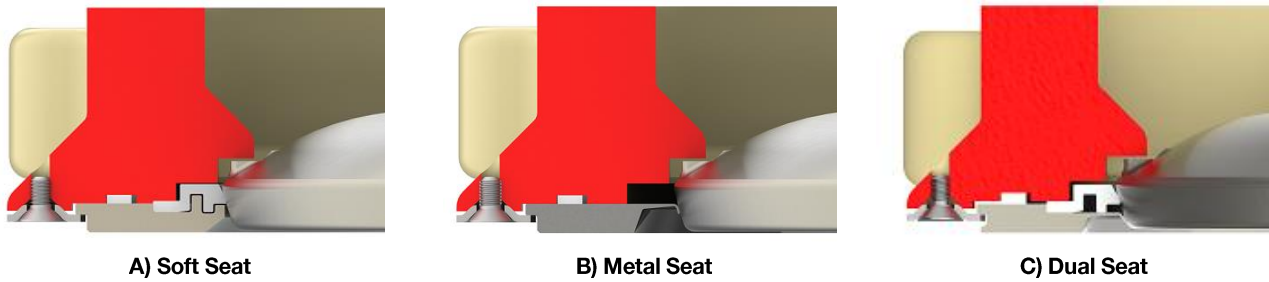

Figure 1: Cross-sections of seat retainer configurations
WARNING: When installing the valve in-line between flanges, make certain the flange face gasket covers both seat retainer and body surfaces. Failure to do so will cause excessive leakage. Refer to Figures 1: A, B and C for seat retainer options and line gasket position.
To disassemble the body, refer to Figures 1 - 3, orient the body with the seat retainer gasket surface horizontal and proceed as follows:
1. On Valdisk valves supplied with seat retainer clips, remove the seat retainer screws and retainer clips. Lift the seat retainer out of the valve body. (Refer to Figures 1: A, B, C).